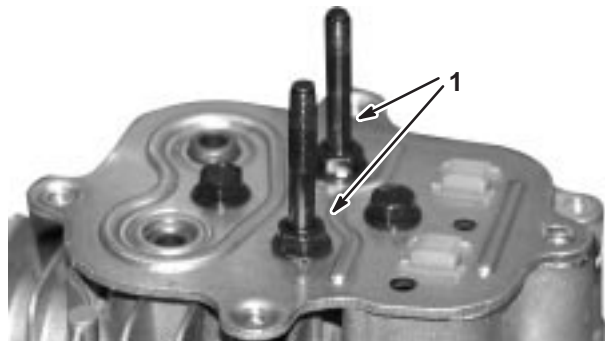

Fig. 58 – Installing Rocker Arm Studs
1. Install and torque two (2) rocker arm studs to 130 in. lbs. (15.0Nm), Fig. 58.